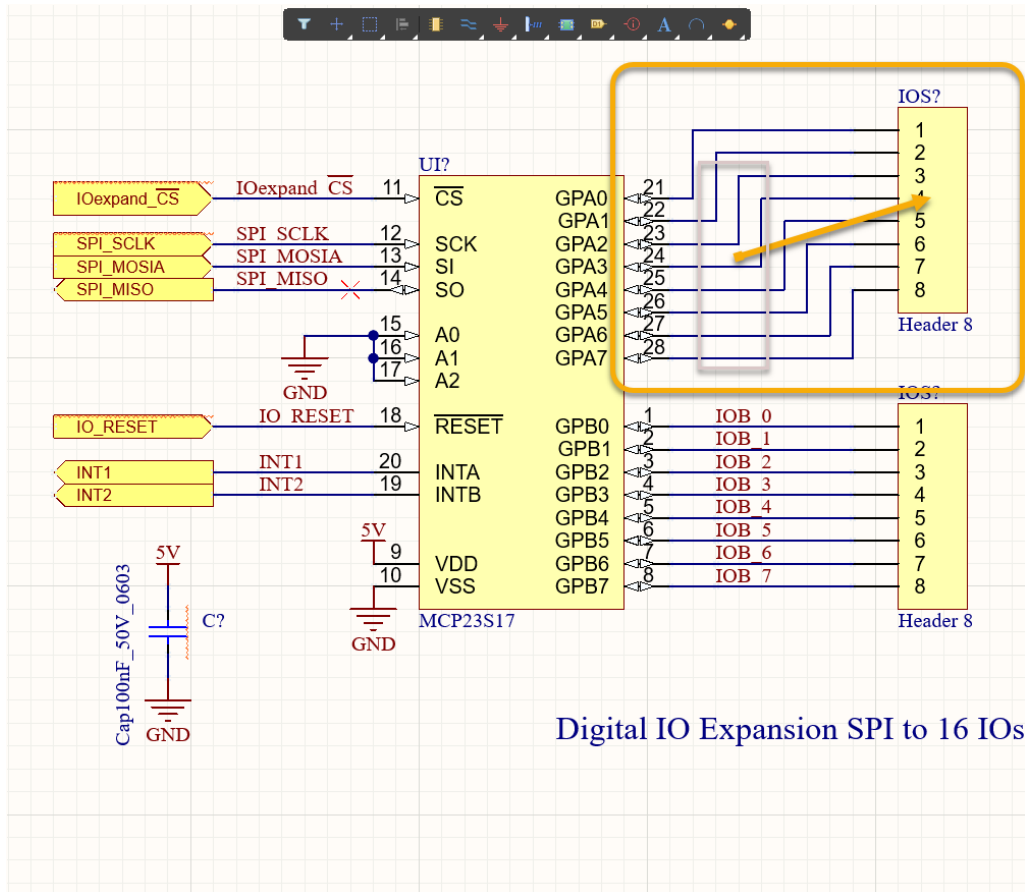

Figure 33. Auto-Generated wires when pulling the header away
41. Drag `Header 8` away from `MCP23S17` to create wire connections between the pins automatically, as shown in *Figure 33* below.